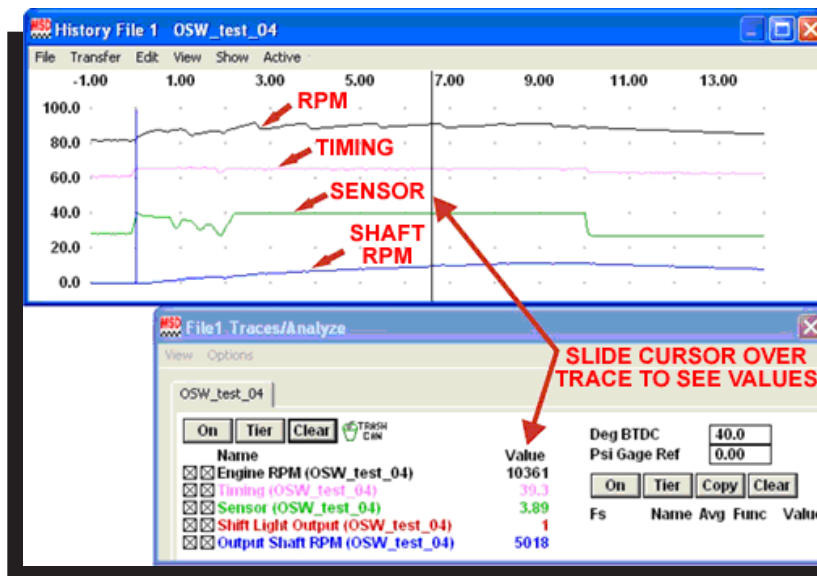

Figure 10 Reviewing Data from a Run.
3. In the history file, the user can view RPM, Timing, Sensor voltage, Shift Light Output, and Output Shaft RPM values. Sliding the cursor over the traces shows the value in the Traces/Analyze box. Traces can be viewed stacked, as shown, or overlaid by clicking on the Tier button (Figure 10).